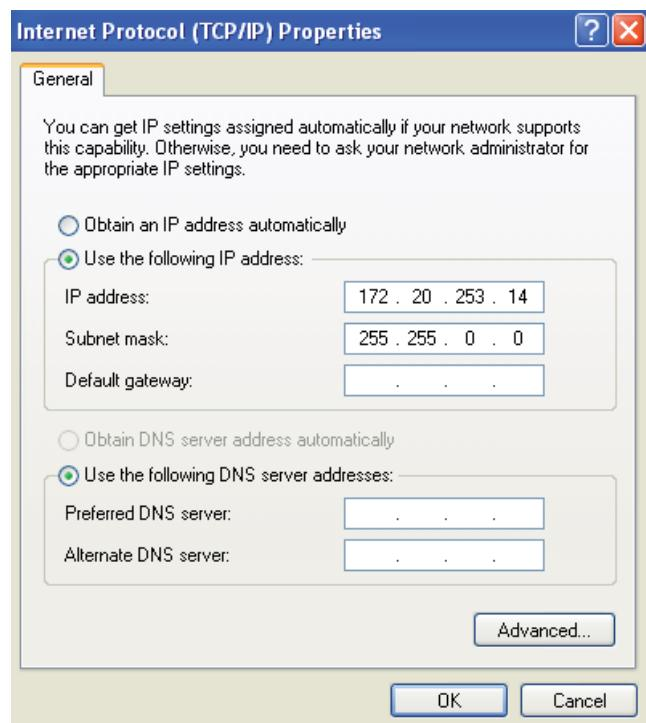

Fig.78 - IP address setting
1. Assign a static IP address (see Fig.78) to PC (172.20.253.14/255.255.0.0)
1. Assign a static IP address (see Fig.78) to PC (172.20.253.14/255.255.0.0).